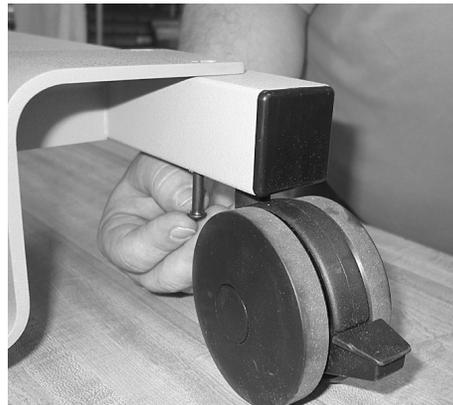

Figure 3.25
8. Remove burrs from drilled holes and insert screw from bottom, guiding through both holes in tubing and tank bracket. (Figure 3.25)